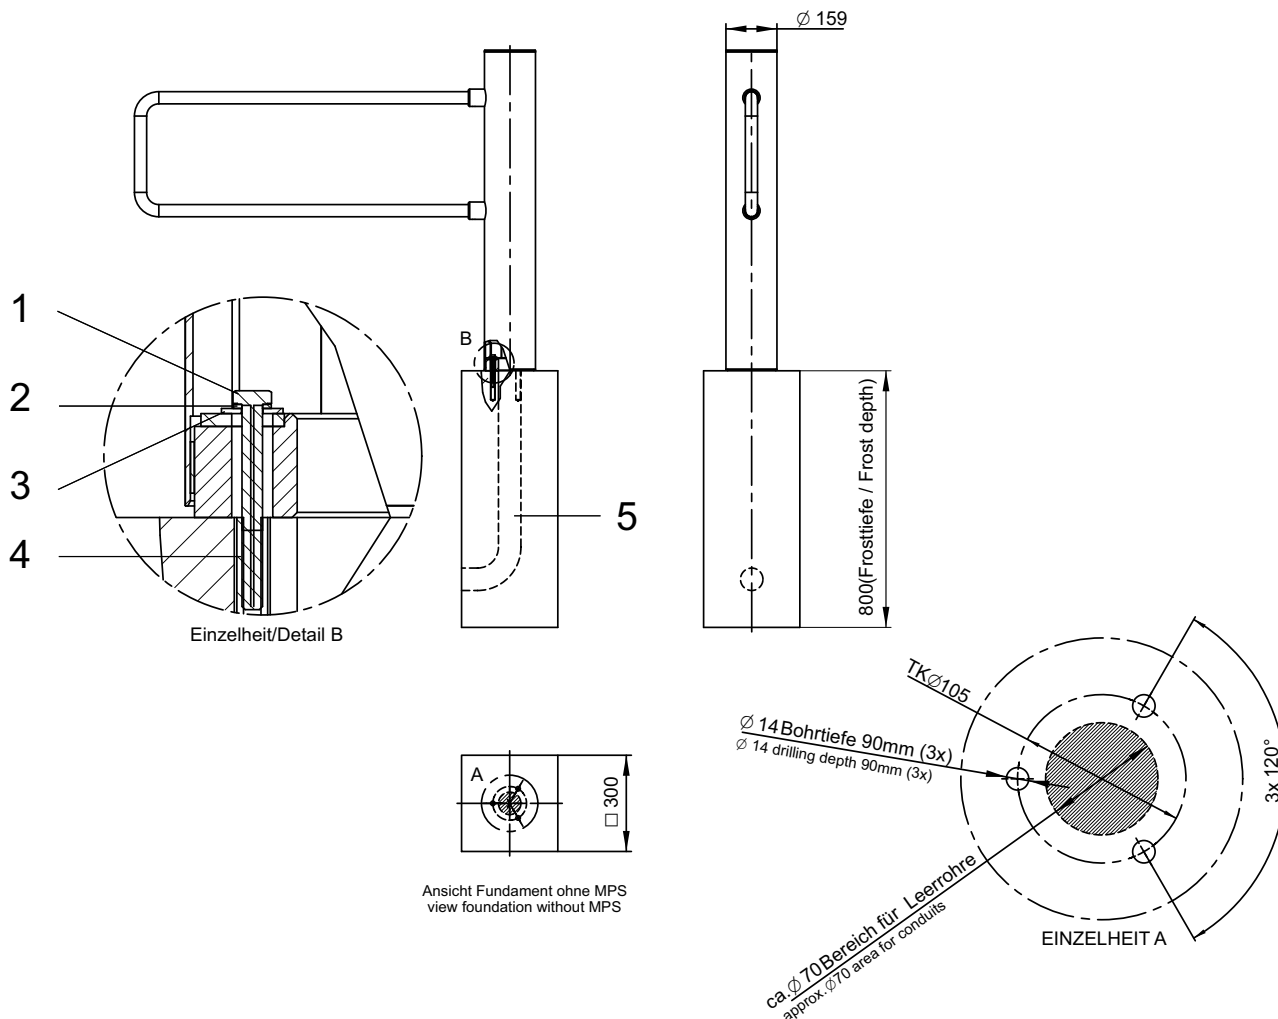

Fig. 4: Foundation plan
The empty conduits must be positioned accurately to the drilling plan. Refer to Page 24, Fig. 4.
1. Make the bore holes as per the drilling plan (see Page 24, Fig. 4).